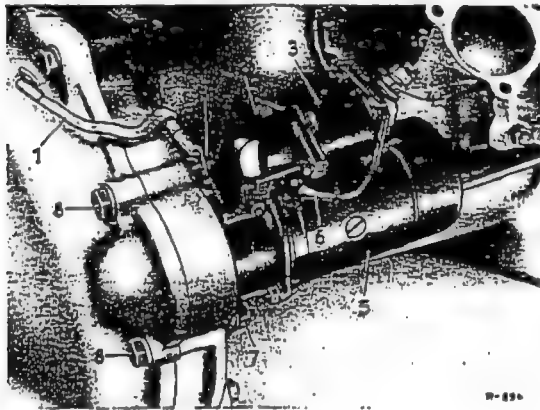

Fig. 15-1/1
2. Disconnect the control cable at terminal 50 of the solenoid switch, and the battery cable 30 and the cable 51 (charging cable from generator to battery) at the contact terminal (4) of the solenoid switch (3) (Fig. 15-1/1).
3. Screw out the nuts (7) of the starter fixing screws (8) and remove the ground cable (1) to the cowl (Fig. 15-1/1).
4. Pull out the starter from the fixing screws (8) and remove downward.